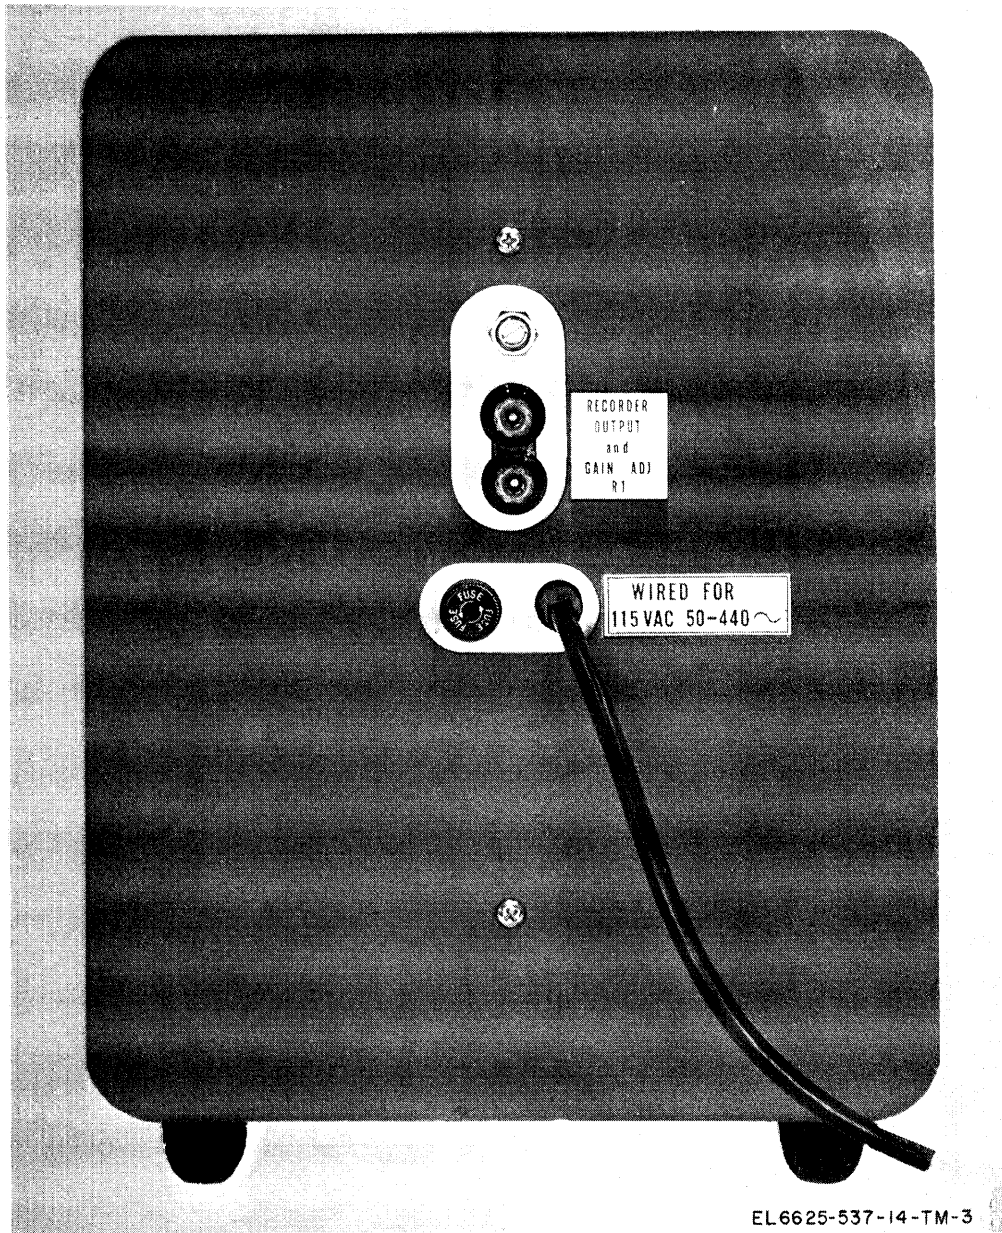

Figure 2-2. Electronic Voltmeter ME-202(\*)U, rear panel.
b. Make sure that the appropriate fuse is installed in the fuseholder on the rear panel (fig. 2-2); a 1.5 ampere slow-blowing fuse is required for 115 volt operation; a 0.75 ampere slow-blowing fuse is required for 230 volt operation.